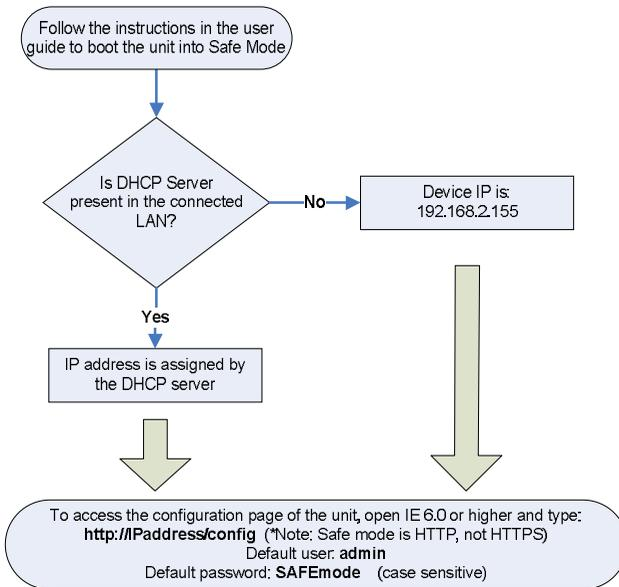

Figure 44 Safe mode procedure
3. You need to know the IP address of the SmartRack 116 IP. The IP address depends on whether there is a DHCP server on the network. If there is, the DHCP server assigns an IP address to the SmartRack 116 IP. If there is no DHCP server, the unit boots with the static IP address 192.168.2.155. See Figure 44 for an overview of this procedure.